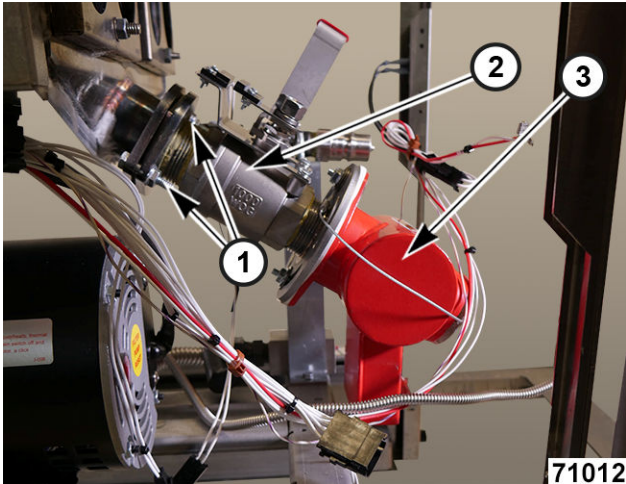

Fig. 127
36. Install drain valve (2, Fig. 127) / drain manifold (3, Fig. 127) assembly.
37. Install and tighten flange bolts alternately and evenly (1, Fig. 127).